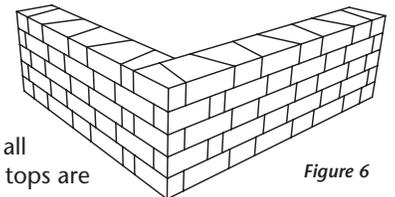

Figure 6
- The Pyzique wallstone top has imprints that help with installation. For the last layer, turn all wallstones over so the tops are smooth. See Figure 6.